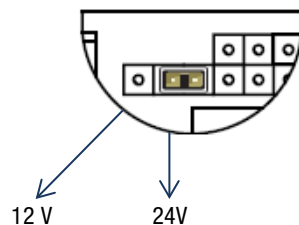

Figure 2: J1 Power Supply Selection (12V/24V)
1. **Power Supply Jumper Settings:** Refer to Figure 2 to select the correct jumper configuration for for the unit's operating power supply. Figure 2 shows the meter configured for +24Vdc operation. Jumper J1's setting is only used to select the power source that powers the meter's electronics. Jumper J1 has no effect on backlit models' power source since the backlighting power supply must always be 24Vdc (± 2 Vdc) and connected to TB1-5 and TB1-6.